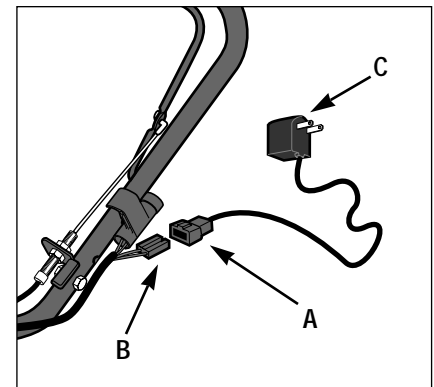

Figure 5-8: Use recharger supplied with unit.
1. Connect the small plug on the battery charger cord (A, Figure 5-8) to the wire harness plug (B) located near the keyswitch.
2. Plug the recharger box (C, Figure 5-8) into a grounded 220-Volt wall outlet.
3. Charge the battery for 24 hours. After charging, unplug the recharger box (C, Figure 5-8) from the wall outlet first, then disconnect the recharging line plugs (A and B, Figure 5-8).